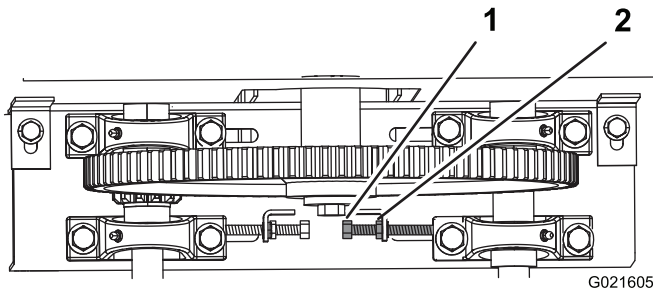

Figure 44
**Note:** To slide the pillow-block bearings to the left, you must loosen the jam nut and tensioner bolt (Figure 44). To slide the pillow-block bearings to the right, you must loosen the motor mounting nuts and bolts (Figure 36).